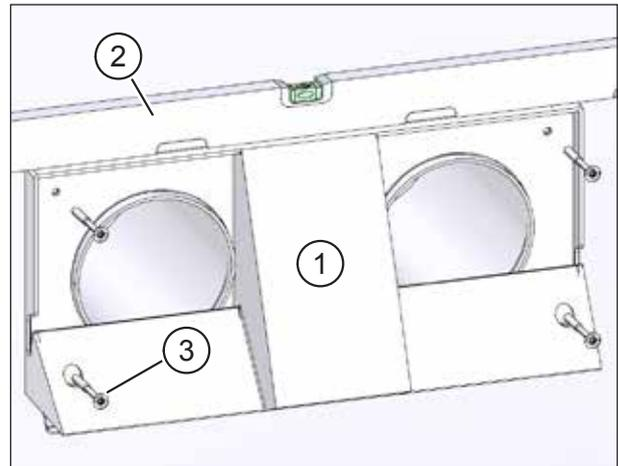

Fig. 10: Fixing the base plate
- ▶ Carefully position the base plate (item 1 in Fig. 10) correctly on the ventilation pipes. Be careful not to damage the seals.
- ▶ Use a spirit level to align the base plate vertically (see item 2 in Fig. 10).
- ▶ Use the four screws provided to fix the base plate (item 3 in Fig. 10).